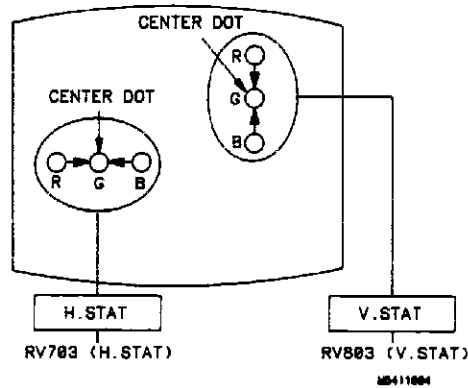

Figure 4-18. Static Convergence.
5. Check four dots which are around center intersection of cross-hatch pattern for coincidence of blue, red, and green dots. If the dots are not coincident, adjust H.STAT (RV703) on rear PC board to obtain horizontal coincidence and V.STAT (RV803) on bottom PC board to obtain vertical coincidence. See figure 4-18.